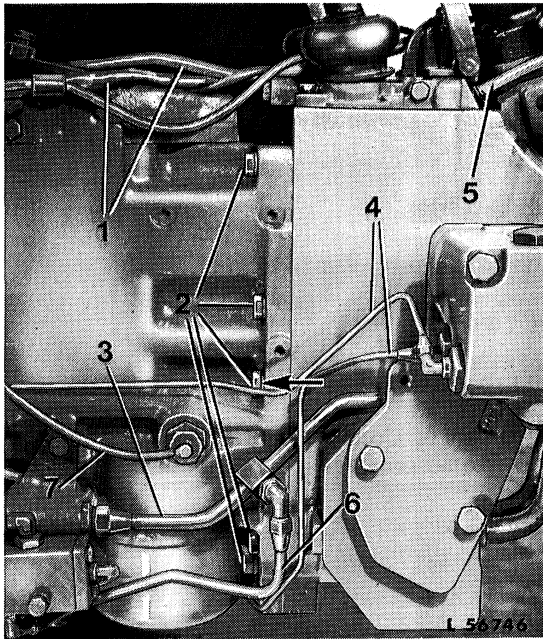
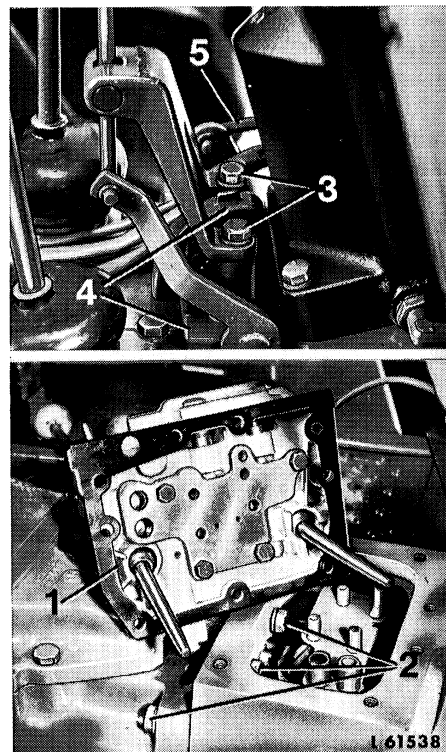

Fig. 6 — Separating between Clutch Housing and Transmission Case, R.H. Side (Earlier Model Shown)
Fig. 7 — Removing Gear Shift Cover
Disconnect hydraulic oil reservoir breather line 5 (fig. 6) at transmission shift cover.
*Only on tractors equipped with a hydraulic trailer brake:* Disconnect pressure line 6 (fig. 6) of trailer brake valve at pressure line 3.
Remove clamp and hydraulic pump pressure line 3 (fig. 6).
Disconnect brake lines 4 (fig. 6) at brake valve.
*On tractors equipped with High-Low shift unit:* Disconnect cable 7 (fig. 6) at transmission oil pressure indicator switch. Disconnect connecting rod 5 (fig. 7) at cover 4.
Remove both cap screws 3 (fig. 7) from cover 4. Lift out cover. After cover 4 has been removed, do not move PTO shift lever otherwise lock balls and springs will drop out of cover.
Remove cap screws 2 (figs. 6 and 7) securing clutch housing to transmission case, and separate clutch housing from transmission case.
*NOTE: Before installing the third (from top) retaining screw at right-hand of clutch housing (see arrow, fig. 6), coat screw with oil-resistant sealant.*